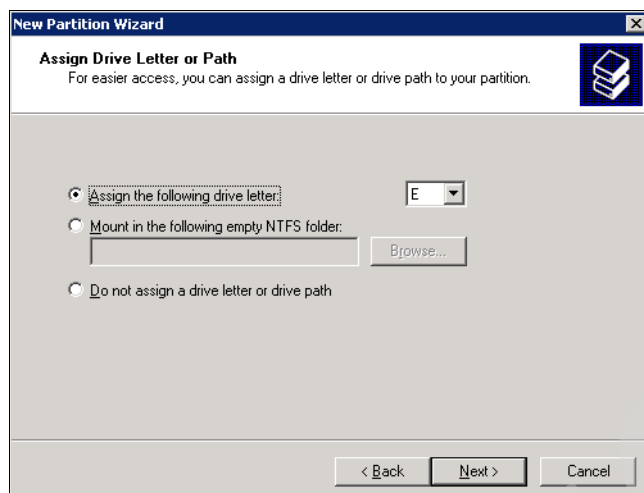

Figure 25-21 Assign drive letter or path
10. Assign a drive letter or mount this space into an existing NTFS Folder and click **Next** (Figure 25-21).